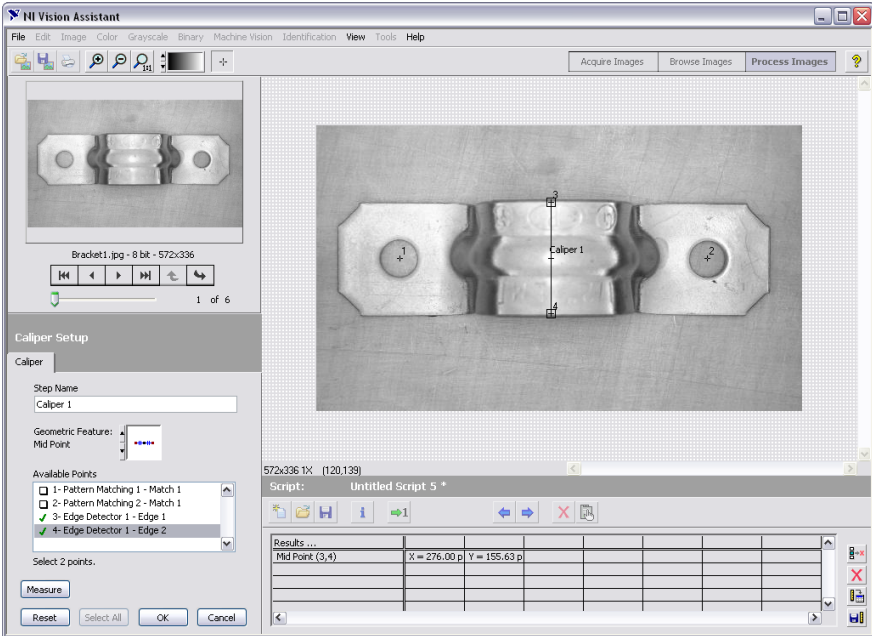

Figure 4-6. Using the Caliper Function to Find Width Center
4. Click **Measure** to compute the center of the bracket width and add the Mid Point measurement to the results table, as shown in Figure 4-6.